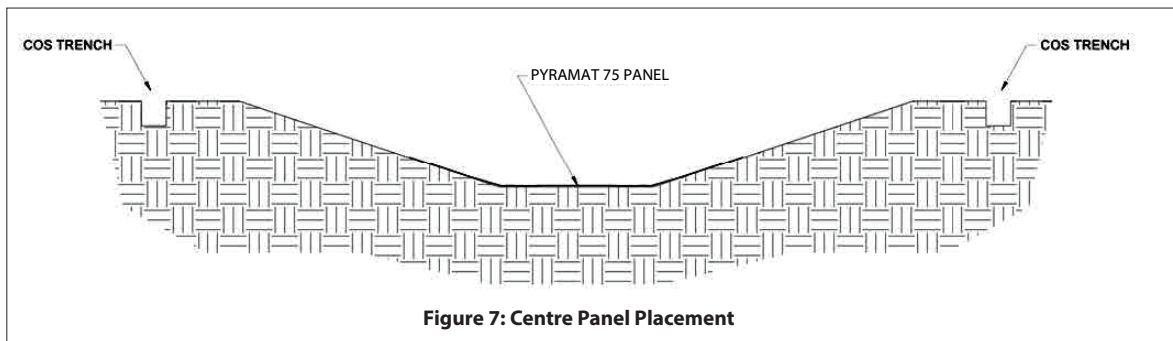

Figure 7: Centre Panel Placement
6. Starting with the centre Pyramat® 75 panel (Figure 7), roll the Pyramat® 75 rolls over the top of the compacted IC trench and upstream across the surface of the channel (Figure 8). Ensure that Pyramat® 75 has intimate contact with the ground and all irregular surfaces beneath the Pyramat® 75 are removed.
11. Starting with the centre Pyramat® 75 panel (Figure 7), roll the Pyramat® 75 rolls over the top of the compacted TC trench and downstream across the surface of the channel (Figure 11). Ensure that Pyramat® 75 has intimate contact with the ground and all irregular surfaces beneath the Pyramat® 75 are removed.